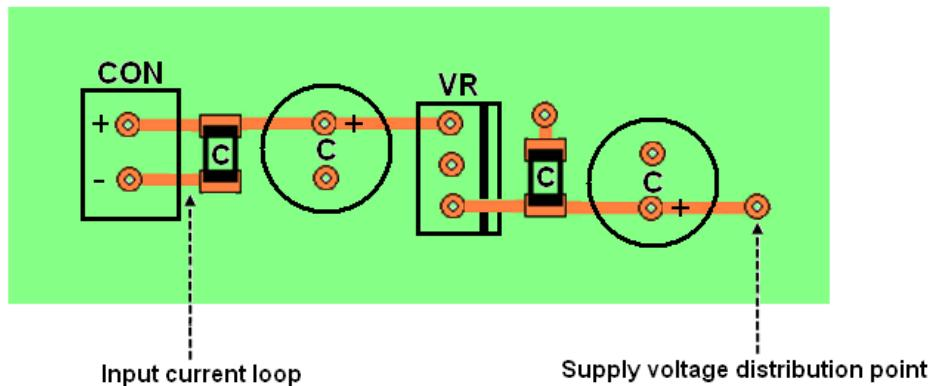

Fig. 6.4 Example of voltage regulator placement / routing
- Place and route the components such that the input current follows this current path: entry point → small capacitor → large capacitor → voltage regulator → small capacitor → large capacitor → supply distribution. If a VCC plane is used, the regulated voltage should be connected to the plane only after the final capacitor. Figure 6.4 presents an example of placement and routing for such a current path.